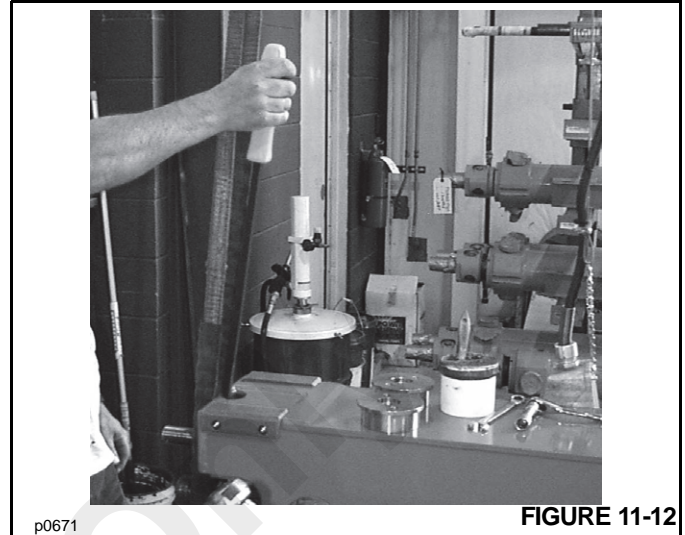

FIGURE 11-12
7. Using a pry bar (Figure 11-12), pry the 3rd boom section about 3.2 mm (1/8 in) away from the 2nd boom section.